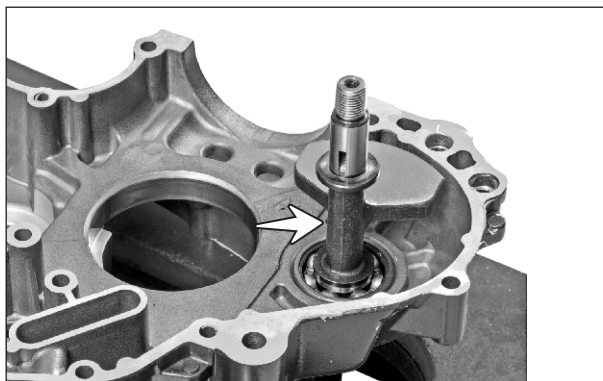

Fig. 3.154
- Take out the balancer shaft complete as an assembly. (Fig. 3.154)